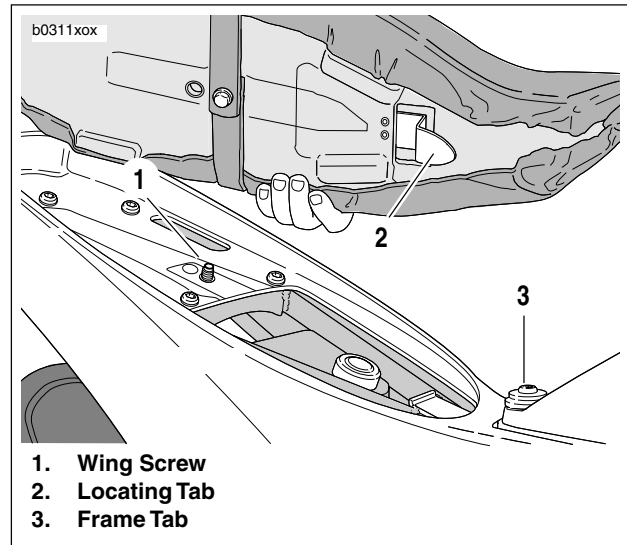

Figure 2-112. Seat
1. See Figure 2-112. Detach seat from frame by loosening the wing screw (4) underneath the tail section.
1. See Figure 2-112. Install seat by sliding the locating tab (2) on the underside of the seat into the frame tab (3) on the motorcycle.
2. See Figure 2-112. Fasten seat to frame with wing screw (1). Tighten securely.